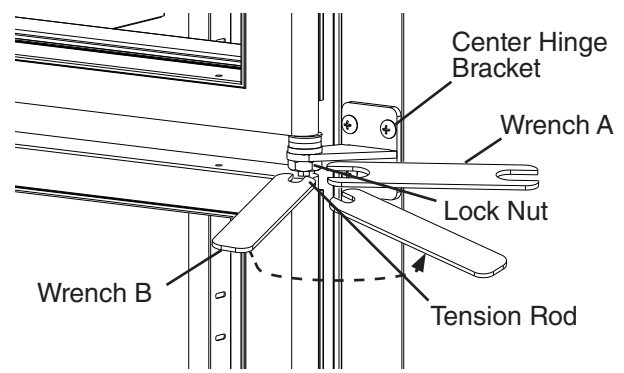

**Fig. 52**
- 2) Remove the front panel, then being careful not to pull the wires on the control module and door switch(es), remove the control panel. Secure the control panel so that it does not interfere with the hinge brackets and will not fall. See Fig. 52.